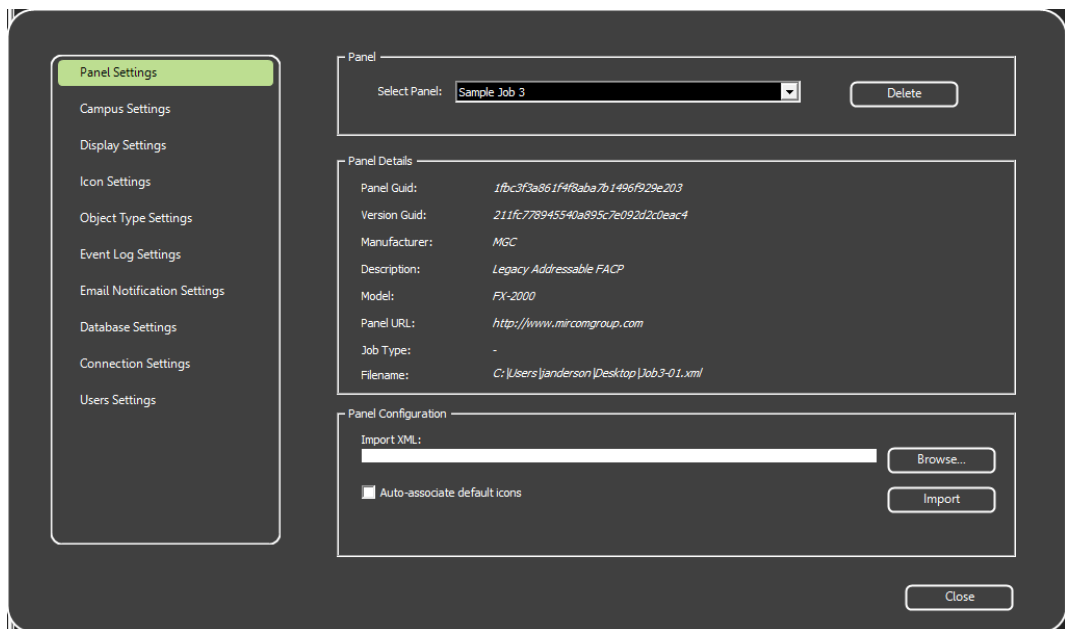

Figure 33 Panel Settings
- Click the **Panel Settings** tab (see Figure 33).
The Panel Settings window appears (see Figure 33 on page 50).